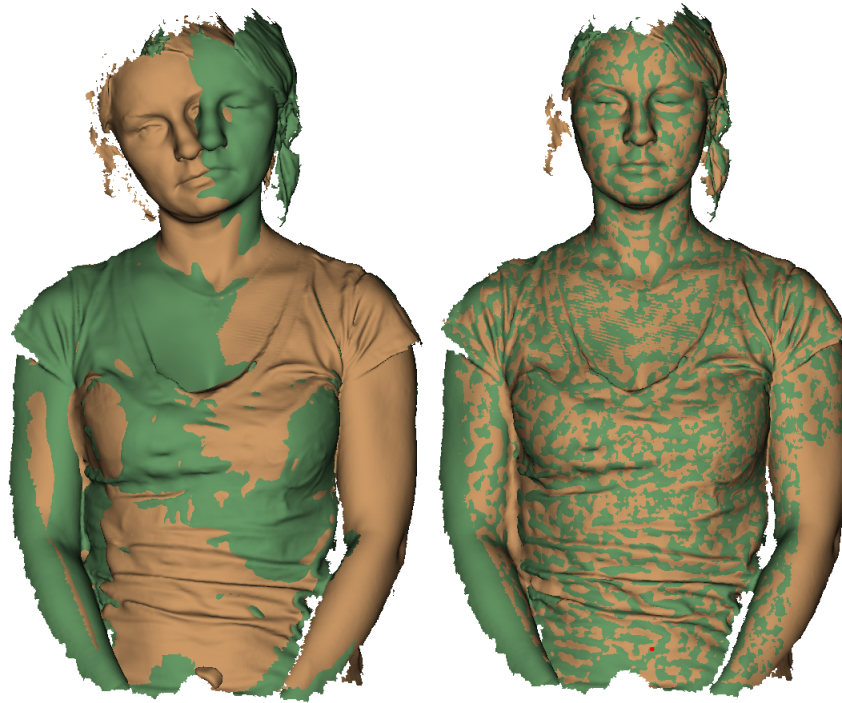

Figure 128: Two models after Best Fit (left) and nonrigid alignment (right).
While Best Fit (rigid) alignment can only perform such transformations as translation and rotation, the nonrigid algorithm can deform 3D data. This algorithm is intended to process so-called nonrigid objects: objects whose shapes have changed during the scan (e.g., models of animals or humans—see Figure 128, left). Keep in mind that the surface Artec Studio produces as a result of the deformation may differ from the surface of the actual object.
5. Click *Align....* The algorithm will align models by deforming one of the model (see Figure 128, right). If you are dissatisfied with the alignment results, click ↺ and specify additional point pairs, or reposition the current pairs.